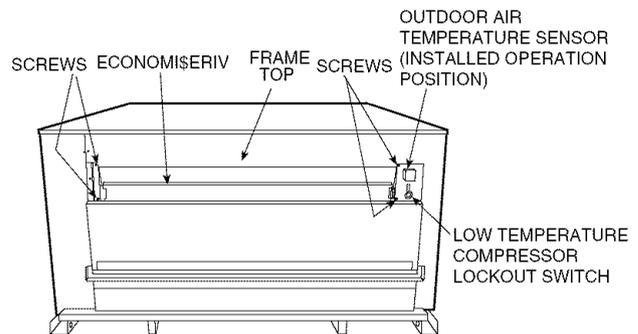
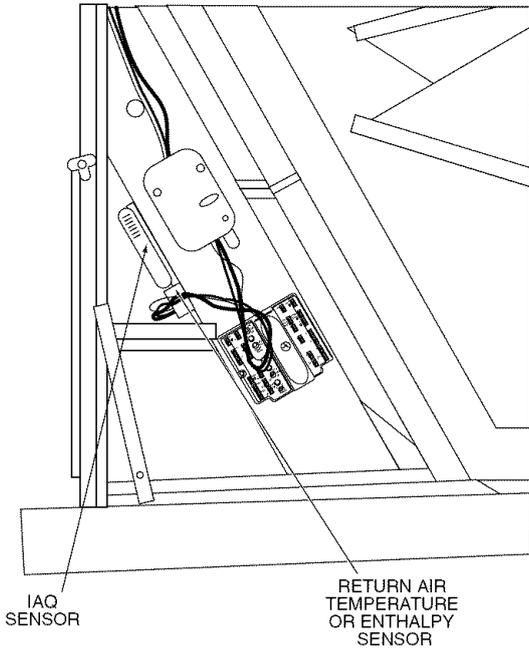
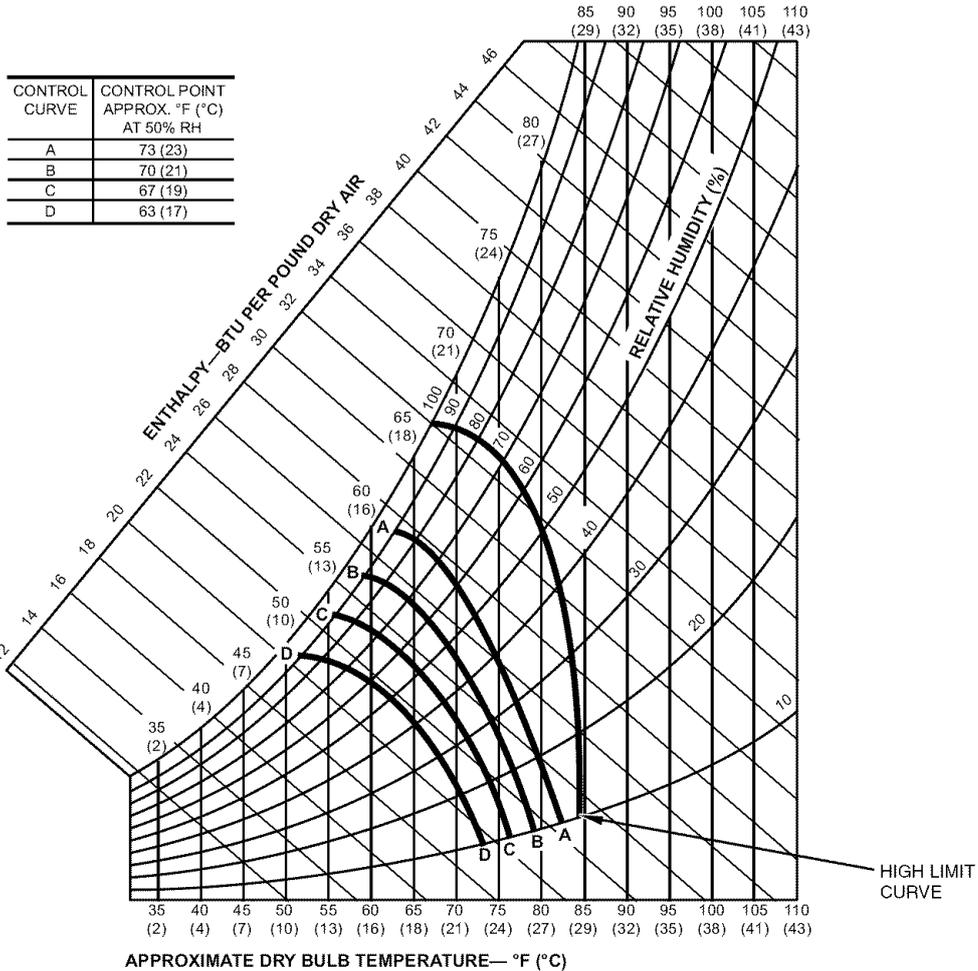

Fig. 27 — EconoMiSerIV Component Locations — End View
Fig. 34 — Return Air Temperature or Enthalpy Sensor Mounting Location
Fig. 35 — Enthalpy Changeover Set Points
OPTIONAL ECONOMISERIV AND ECONOMISER2 — See Fig. 27 and 28 for EconoMiSerIV component locations. See Fig. 29 for EconoMiSer2 component locations.
2. Relocate outdoor air temperature sensor from shipping position to operation position on EconoMiSerIV. See Fig. 27.
Outdoor Air Temperature (OAT) Sensor — The outdoor air temperature sensor (HH57AC074) is a 10 to 20 mA device used to measure the outdoor-air temperature. The outdoor-air temperature is used to determine when the EconoMiSerIV can be used for free cooling. The sensor must be field-relocated. See Fig. 27. The operating range of temperature measurement is 40 to 100 F.
Low Temperature Compressor Lockout Switch — The EconoMiSerIV is equipped with an ambient temperature lockout switch located in the outdoor airstream which is used to lockout the compressors below a 42 F ambient temperature. See Fig. 27.
Differential Dry Bulb Control — For differential dry bulb control the standard outdoor dry bulb sensor is used in conjunction with an additional accessory return air sensor (part number CRTEMPSN002A00). The accessory sensor must be mounted in the return airstream. See Fig. 34.
Outdoor Enthalpy Changeover — For enthalpy control, accessory enthalpy sensor (part number HH57AC078) is required. Replace the standard outdoor dry bulb temperature sensor with the accessory enthalpy sensor in the same mounting location. See Fig. 27. When the outdoor air enthalpy rises above the outdoor enthalpy changeover set point, the outdoor-air damper moves to its minimum position. The outdoor enthalpy changeover set point is set with the outdoor enthalpy set point potentiometer on the EconoMiSerIV controller. The set points are A, B, C, and D. See Fig. 35. The factory-installed 620-ohm jumper must be in place across terminals SR and SR+ on the EconoMiSerIV controller. See Fig. 30 and 36.
Replace the standard outside air dry bulb temperature sensor with the accessory enthalpy sensor in the same mounting location. See Fig. 27. Mount the return air enthalpy sensor in the return airstream. See Fig. 34. The outdoor enthalpy changeover set point is set with the outdoor enthalpy set point potentiometer on the EconoMiSerIV controller. When using this mode of changeover control, turn the enthalpy setpoint potentiometer fully clockwise to the D setting.